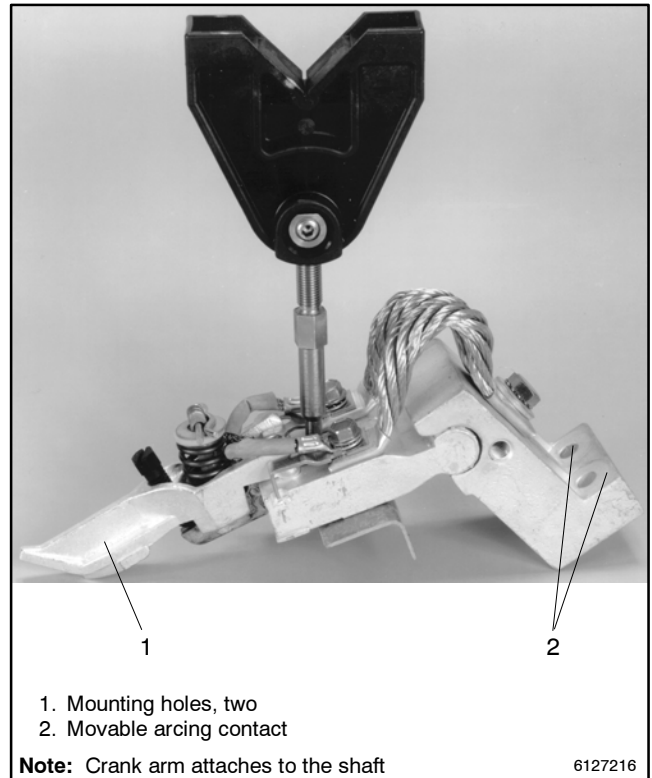

Figure 11-14 Movable Contact Assembly
3. Remove the movable contact assembly. Use a 1/2 in. socket wrench with 12 in. extension to remove two nuts with lock washers from the base of each movable contact assembly. See Figure 11-14.